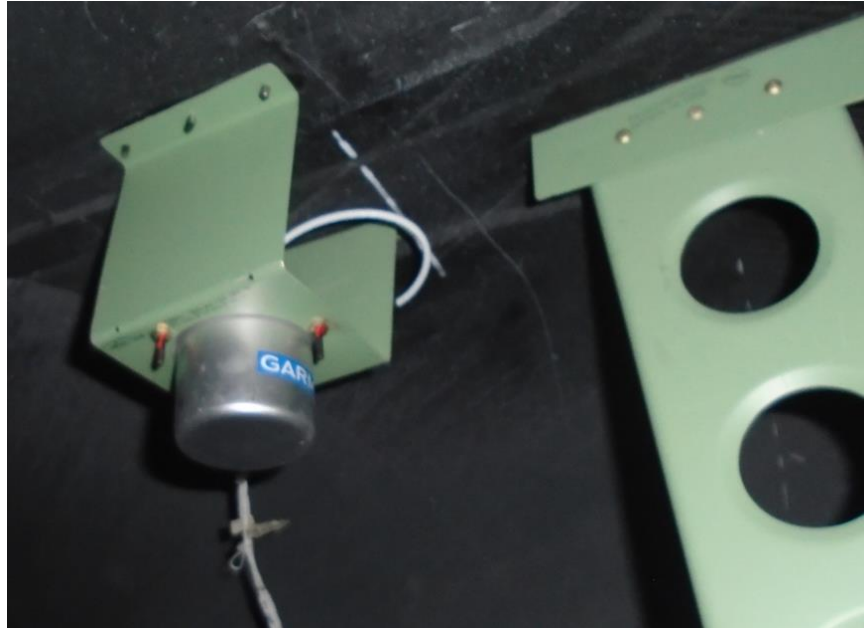

Figure 5 - Original Magnetometer Location
- A. The existing magnetometer bracket, see Figure 5, needs to be relocated in order to make room for the air conditioning duct.